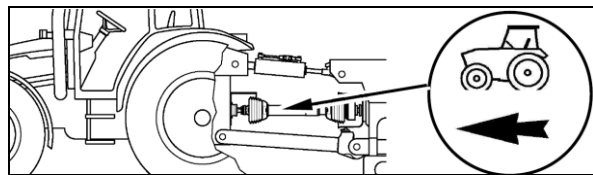

Fig. 67
4. Slip the locking mechanism of the propeller shaft half with the tractor symbol (Fig. 67) on the protective tube onto the p.t.o. shaft of the tractor until the locking mechanism noticeably engages.